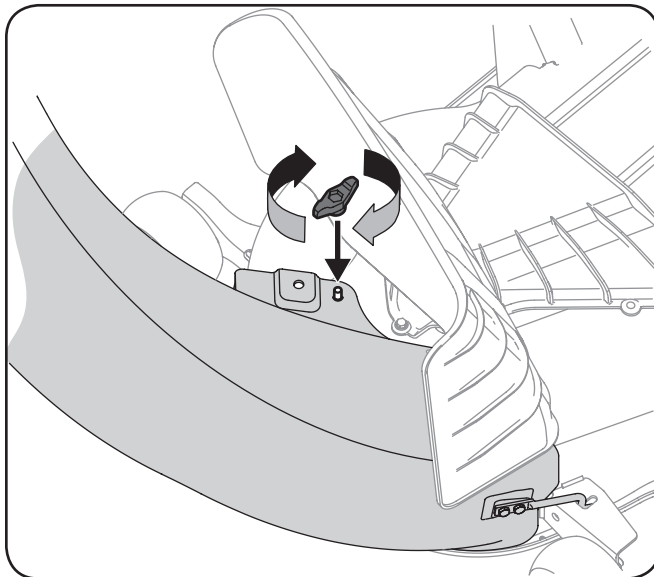

Figure 4-20
6. Secure the discharge chute elbow to the cutting deck using a (720-04122) wing knob included in hardware pack 689-00341. Refer to Figure 4-20.